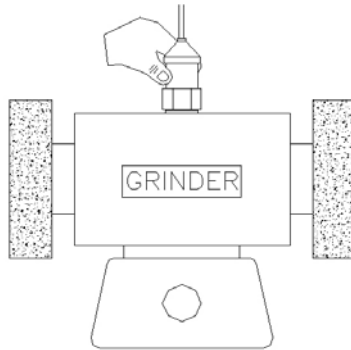

Fig. 2
- 5) If the surface material of measuring article is not the ferrous material, hold the vibration sensor by hand & touch the sensor to the surface of the measuring article, refer the Fig. 2.